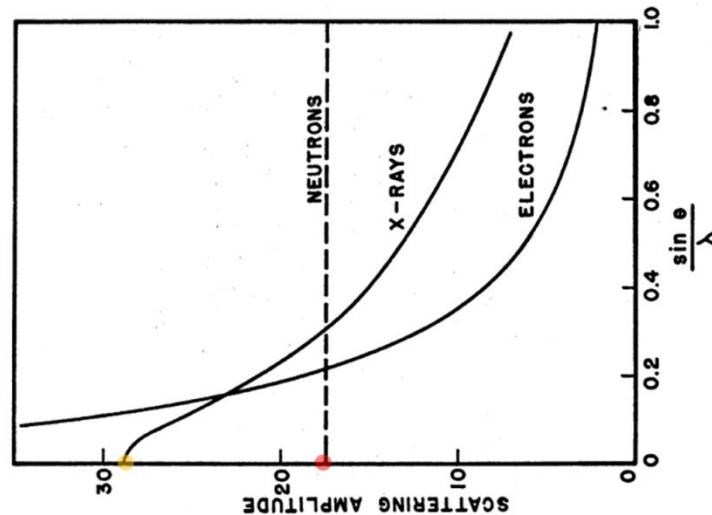

Figure 6: Atomic form factors of copper for x-rays, electrons, and neutrons. From Science **108**, 69-75 (1948).
- 3) Consider the atomic form factor for Co seen by neutrons, electrons, or x-rays (Fig. 6).